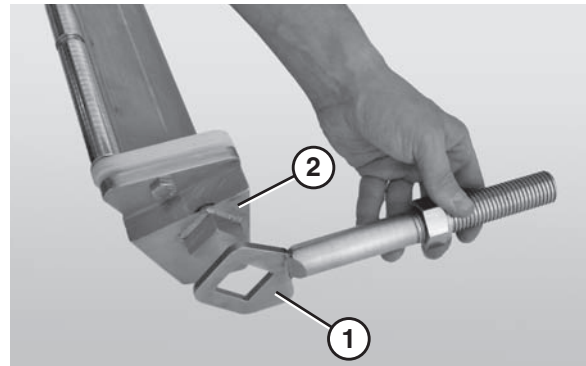

Figure 76
3. Slide the nose bar shafts (**Figure 76, item 1**) off of the nose bar weldment (**Figure 76, item 2**).